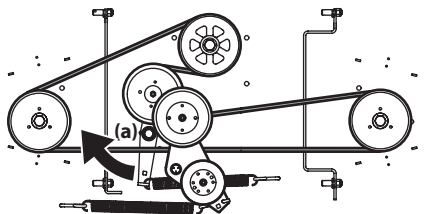

Figure 4-24
5. Using a ½" drive insert the end into the ½" square opening in the deck idler assembly (a) and rotate the deck idler assembly (a) clockwise. See Figure 4-24. While holding the deck idler assembly (a), loosen the deck belt from the pulley and slide the belt away from the pulley.
6. Route the new belt as shown in Figure 4-24. Then reinstall the deck and PTO belt.